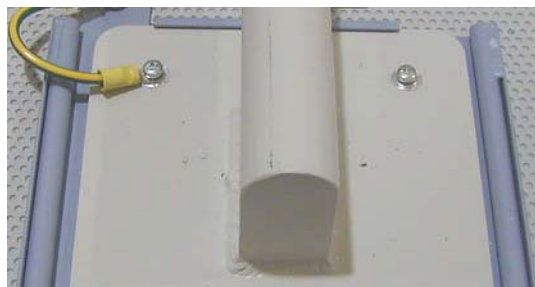

Figure 2-21 Completed LCD Monitor, Handle, Bracket, Ground
Following the instructions below, assemble the LCD bracket, the monitor handle, the LCD monitor, and the ground wire as shown in Figure 2-21.
- 2.) Assemble the bracket, handle, and monitor using the four mounting screws as shown in Figure 2-21. For each of the four mounting holes, apply a thin bead of red Loctite 242 to one of the M4x20mm mounting screws and then install the screw, a flat washer and a lock washer as shown in Figure 2-22.